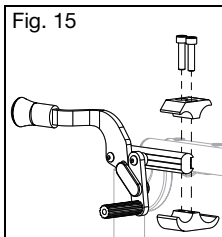

Fig. 15
- Adjust the clamp along the frame so the wheel lock properly compresses the tire and prevents any wheel movement. See Fig. 15.